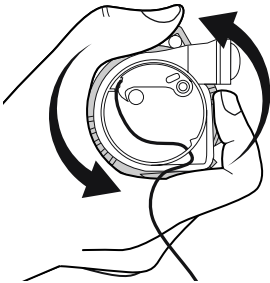

FIG. 13
4. Turn the black locking ring fully counter clockwise and pull the inflator cap off the bladder (Fig. 12, Fig. 13). Discard.